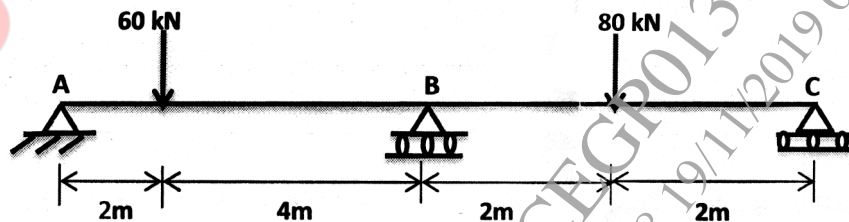

Fig. 4
- (b) Determine the reaction  $V_B$  for a continuous beam ABC shown in Fig. 4 by using Castigliano's second theorem. [6]